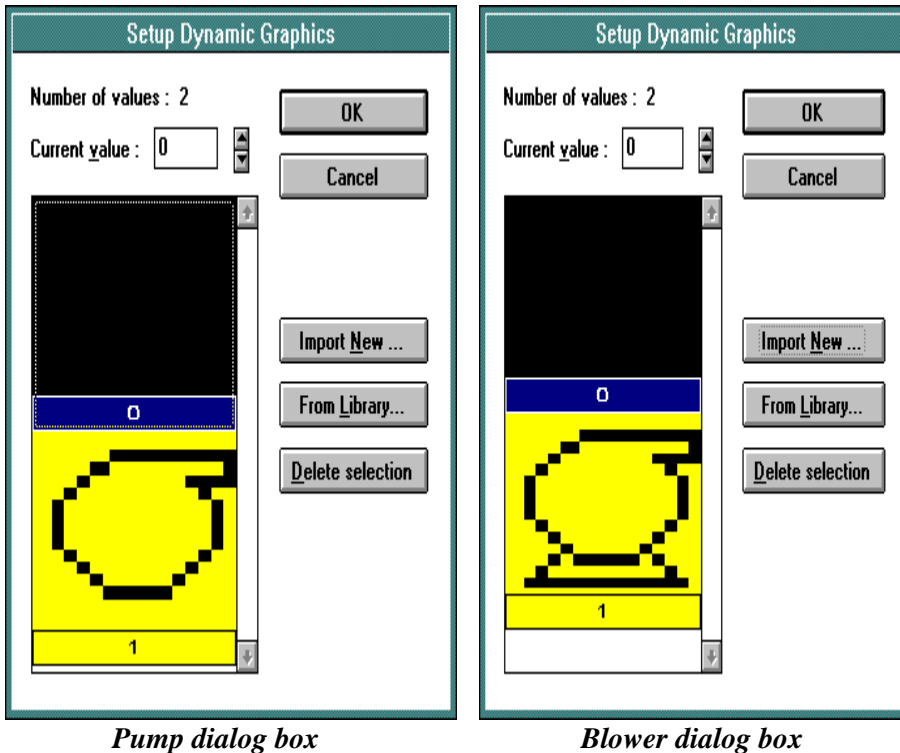

Figure 10-5
8. Highlight the area in which you wish to place the graphic for the pump. Repeat steps 2 through 6. In step 7, select the filename PUMP.BMP for the pump instead of selecting the filename BLWR.BMP for the blower. Once the user has imported the graphic and returned to the page editor workspace, the procedure is complete. Figure 10-5 shows the what the dialog boxes should look like when the graphic for the pump and the blower have been correctly imported.